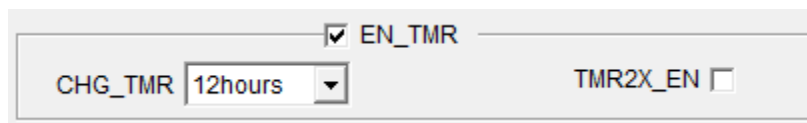

Figure 16: Charge Safety Timer Configuration
14. Set the charge safety timer (see Figure 16).